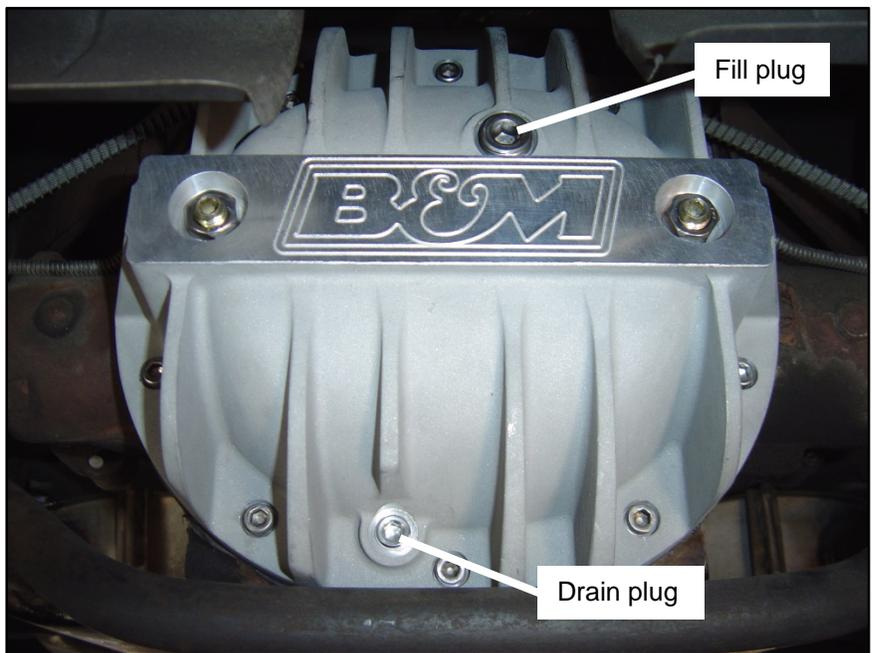

Figure 5
**STEP 16.** Install the supplied magnetic 1/4" NPTF drain plug on the B&M Cast Aluminum Rear End Cover and tighten (See Figure 5).
**B&M Cast Aluminum Rear End Cover** fill plug hole (See Figure 5). Add gear oil until oil runs out of the axle housing fill hole.